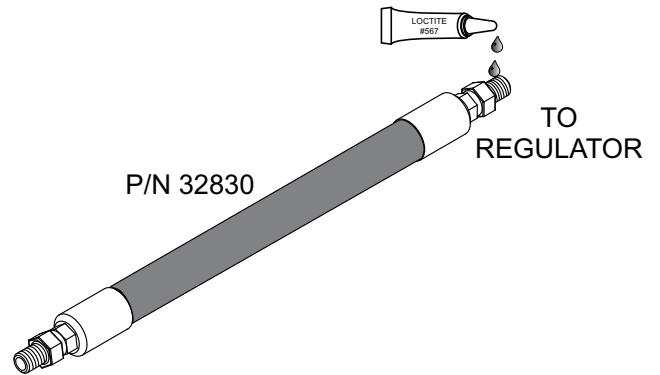

Figure 25. Applying Loctite® 567™ (Regulator/LPG Adapter Sides)
24. Apply Loctite® 567™ to the threads on the free end of the upper hose (P/N 32830). Reference Figure 25.